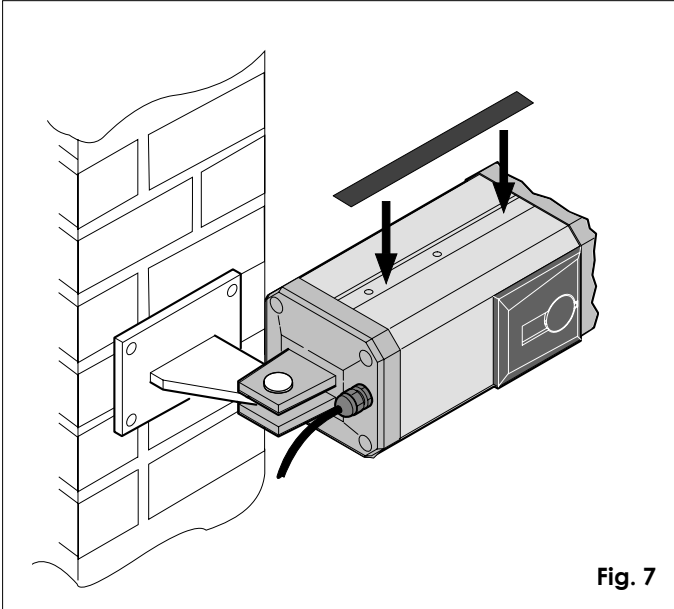

Fig. 7
- 12) Attach the metal tag to the slot in the top section of the motor in order to blank off the holes present as shown fig.7. On the other hand, do not block the holes to be found in the lower section.